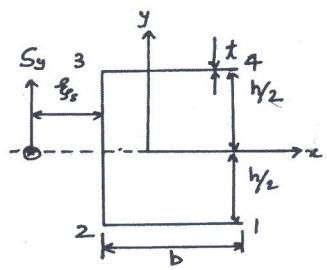

Fig.Q3(b)
- b. Consider a C section beam as shown in Fig.Q3(b), find the shear center for the same cross-section, if h = 10mm and b = 15mm and Sy = 1200 N by deriving an expression for shear center. (10 Marks)